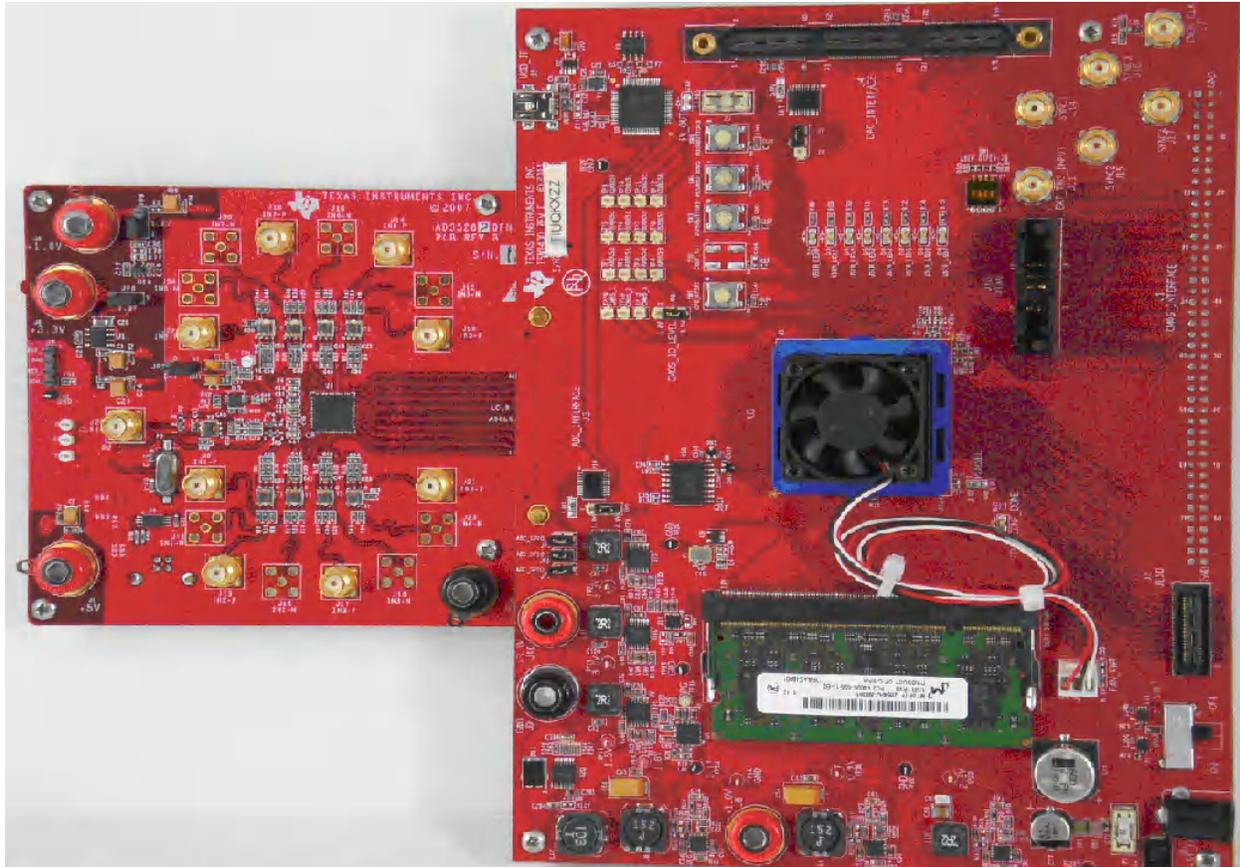

Figure 4-1. TSW1400EVM interfacing to an ADS5281 EVM
- The TSW1400 EVM connected to an ADS5281 EVM is shown in Figure 4-1